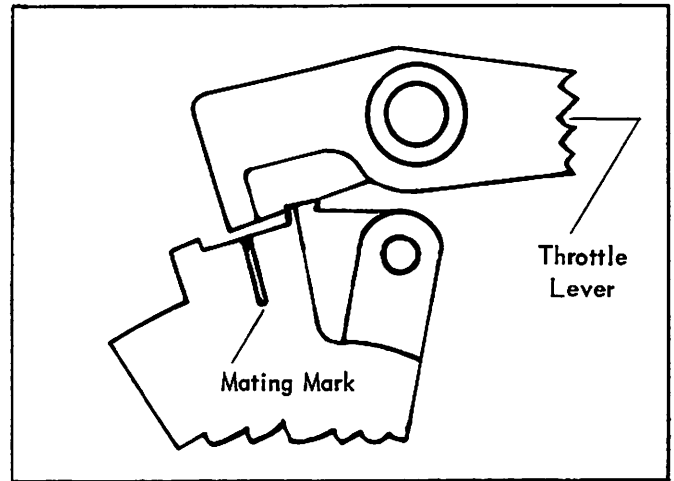
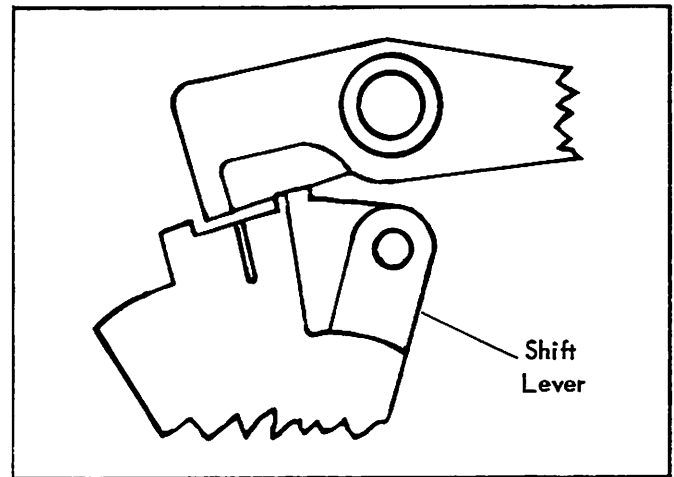

Figure 13. Lever Positions
Figure 14. Lever Positions
4. Shift back into neutral and check to see that throttle lever and shift lever are in position as shown in Figure 13. Disengage cable end and readjust brass barrel of throttle cable, if necessary, to be sure that mating mark on shift lever is to the right of indicating portion of throttle control lever, as shown in Figure 14. This will assure that engine is in neutral when control handle of remote control is in its detent position (neutral).